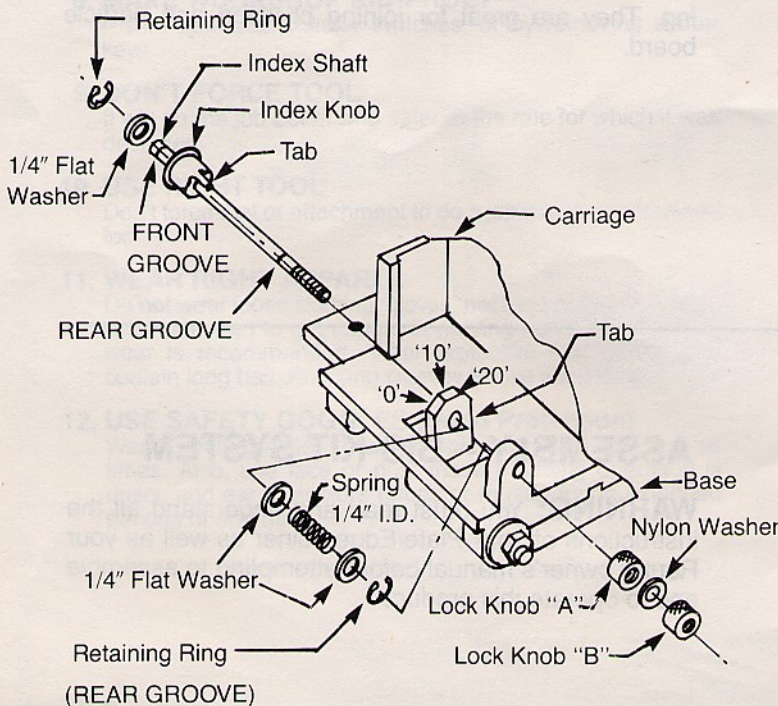

Figure 2
1. Invert assembly upside down as shown in fig. 2 (The tab with biscuit sizes '0', '10', '20' engraved on the flats will be protruding through the slot in the carriage).